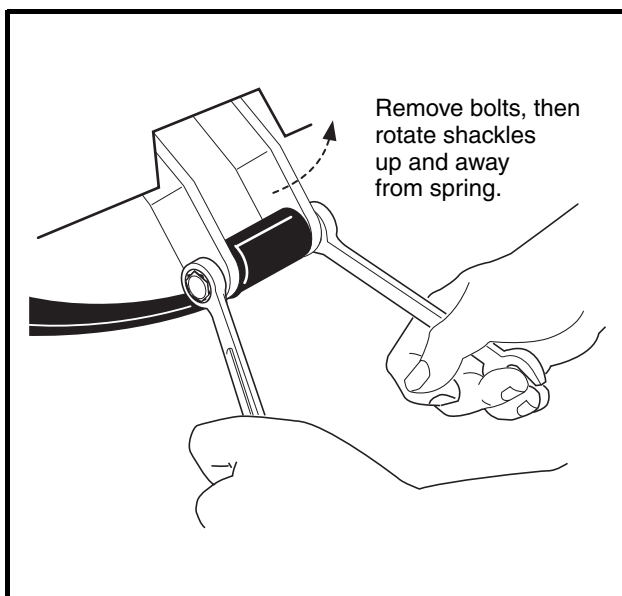

Figure 16-22 Rear Shackles
8. Raise vehicle just enough to relieve tension from leaf springs, then remove the bolts securing the leaf springs to the shackles (**Figure 16-22, Page 16-11**).